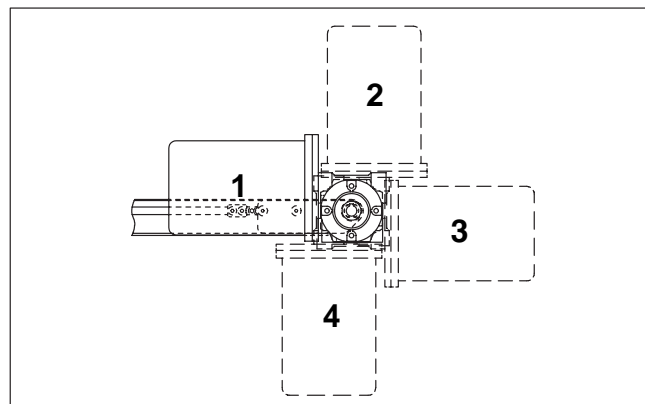

Figure 3
<p>Gearmotor may be operated in positions 1, 2, 3 or 4 (Figure 3).</p>
- If required, change gearmotor position by removing four (4) screws (Figure 4, item I). Rotate gearmotor to other position (Figure 3) and replace screws (I). Tighten to 100 in-lb (12 N-m).